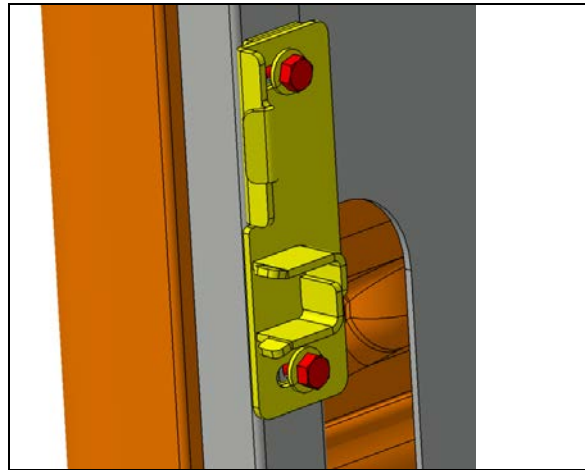

FIGURE 126
14. Perform the transversal adjustment by moving the strike plate using the slotted holes (FIGURE 126).